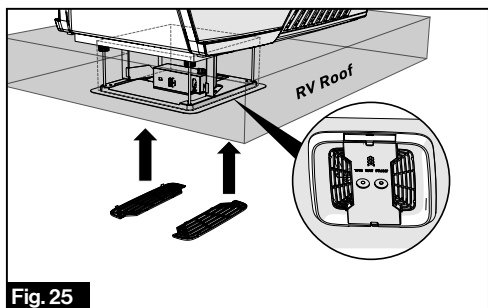

Fig. 25
6. Align the filter tabs with mating notches and push to snap the filters into the ADB shroud. (Fig. 25)